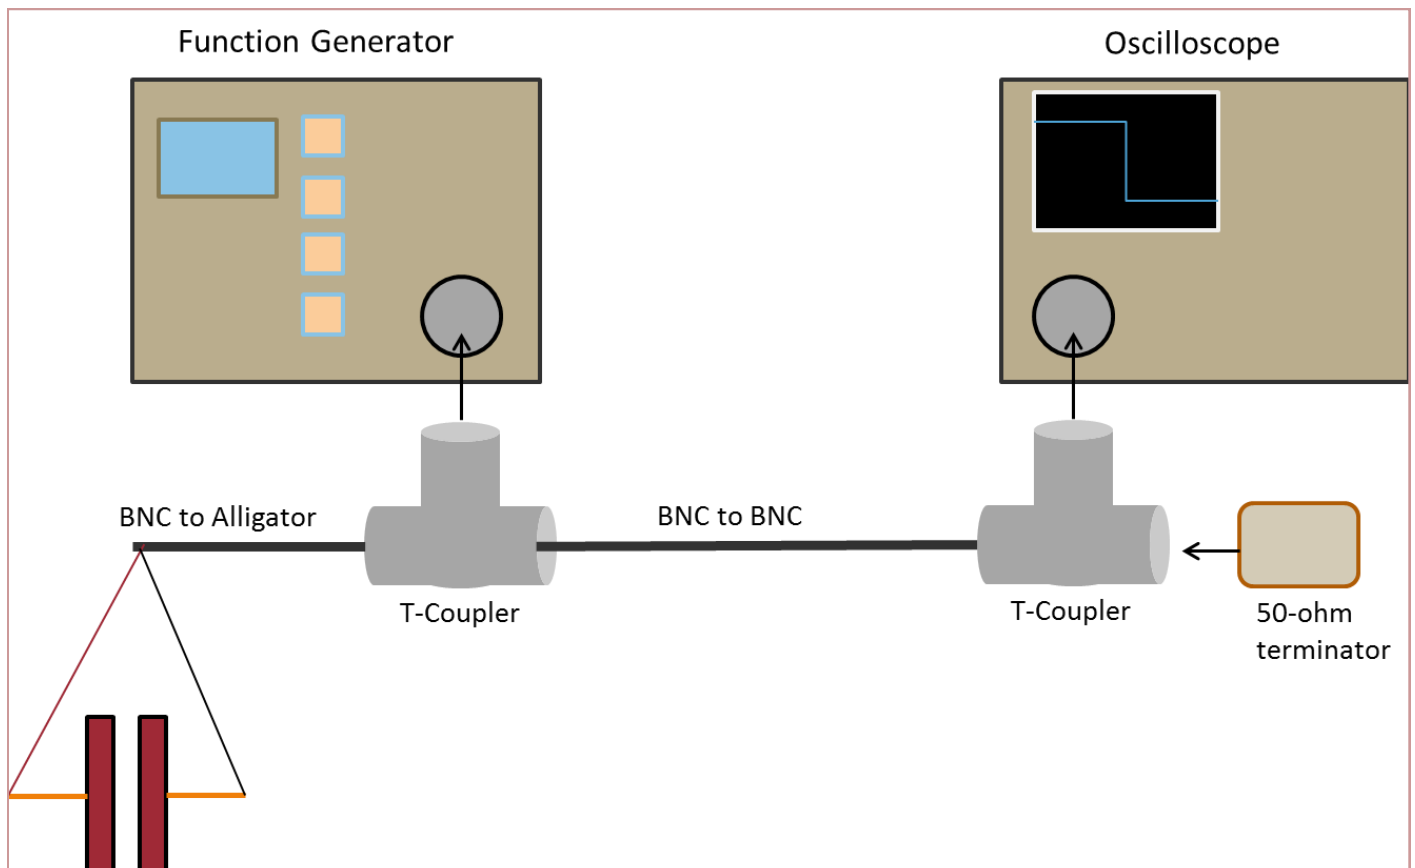

Figure 12. Diagram of test set-up for Postlab 3.
1. Build the test set-up of Fig. 12, but do not connect the capacitor yet.